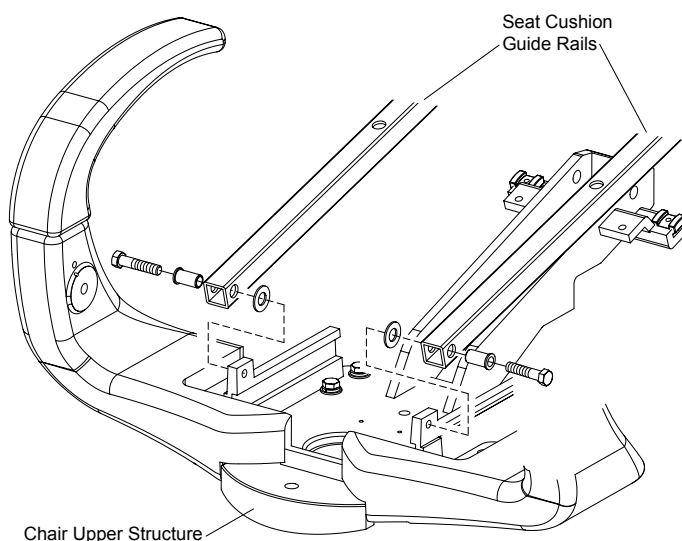

Figure 2
6. Using the supplied hardware, attach the upholstery toe rail to the chair's upper structure as indicated (figure 2) using a 9/16 wrench or socket.